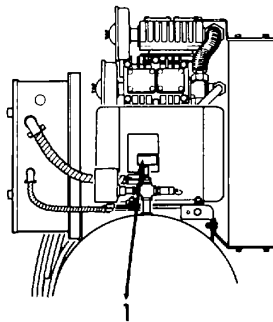

Figure 3-34. Pressure Gage, Installation.
- (1) Inspect for stripped threads.
- (2) Inspect for signs of obvious damage.
e. Installation. Install the pressure gage (1, Figure 3-34).